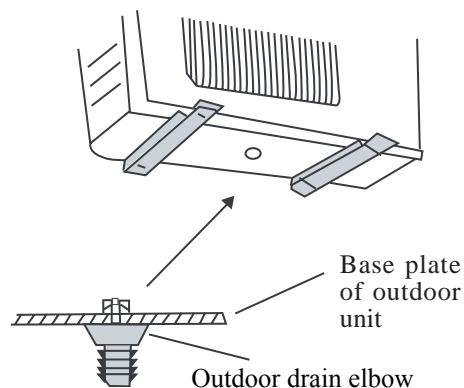

Fig.11-11
- Install the outdoor drain elbow in the  $\varnothing 25$  hole on the base plate as shown in Fig.11-11, and joint the drain hose to the elbow, so that the wastewater formed can be drained out to a proper place.